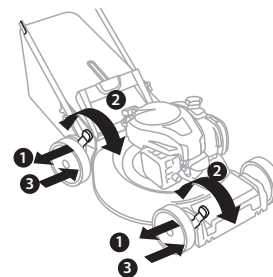

Fig.9
2. To change the cutting height, squeeze the height adjuster lever toward the wheel (1, Fig. 9).
3. Move the lever and wheel up or down to the desired position (2, Fig. 9)., release the lever to lock the wheel in position (3, Fig. 9). Be sure the rear wheels and front wheels are at the same height.